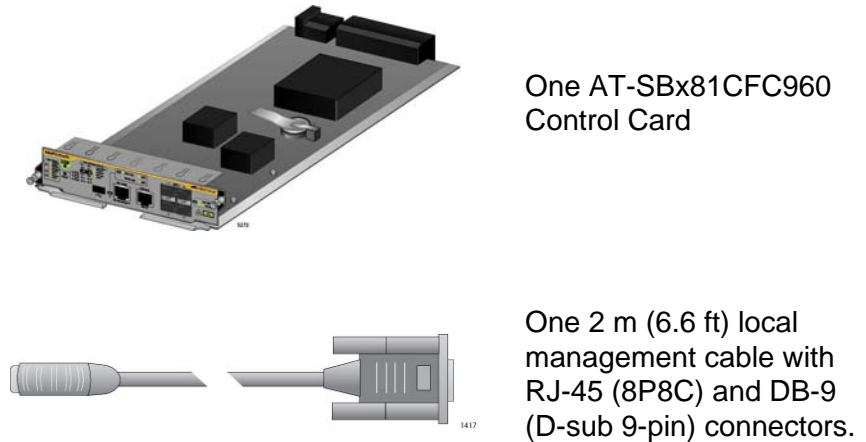

Figure 76. Items Included with the AT-SBx81CFC960 Controller Card
2. Remove the new AT-SBx81CFC960 Controller Fabric Card from the shipping package and verify the package contents, listed in Figure 76.